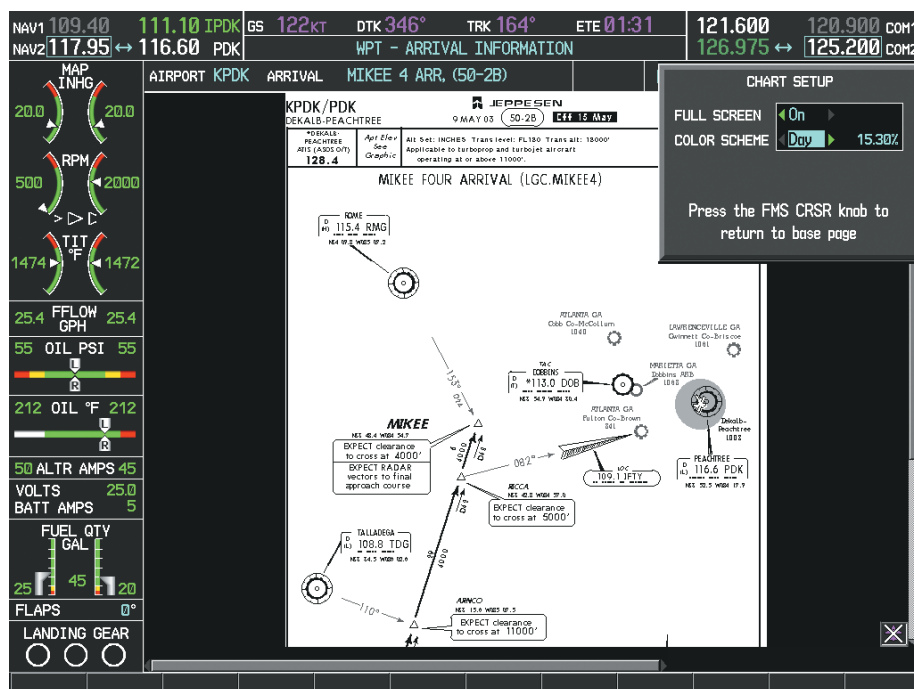

Figure 8-44 Arrival Information Page, Day View
- 3) Turn the large **FMS** Knob to move to the COLOR SCHEME Option (Figure 8-44).